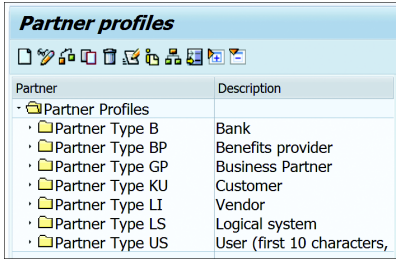

Figure 19.50 Partner Profile
The partner type is a key field for maintaining the partner profile. Figure 19.50 shows different types of partners under which business partner profile is maintained. In a distributed environment, the receiving system details are maintained under PARTNER TYPE-LOGICAL SYSTEM (LS).